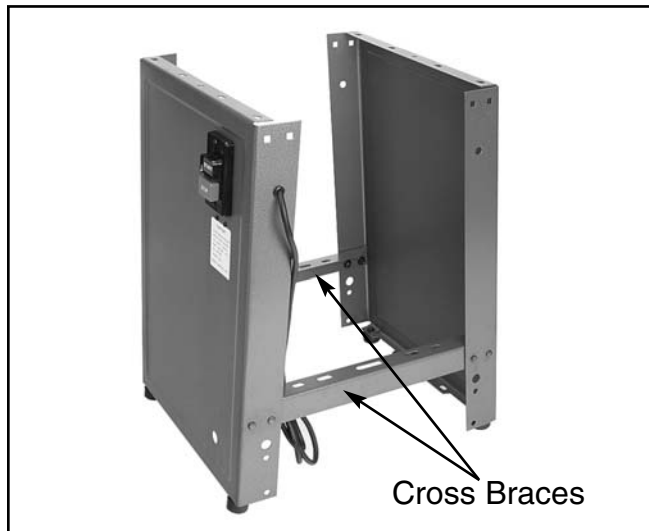

Figure 4. Attach cross braces.
- Stand the panels up so the rubber feet are on the floor. Attach two cross braces to one of the side panels using (4) $\frac{1}{4}$ "-20 x $\frac{1}{2}$ " carriage bolts, flat washers and hex nuts provided. Next, attach the other side panel to the cross braces already mounted. **See Figure 4.** Note: Do not tighten any fasteners at this time.